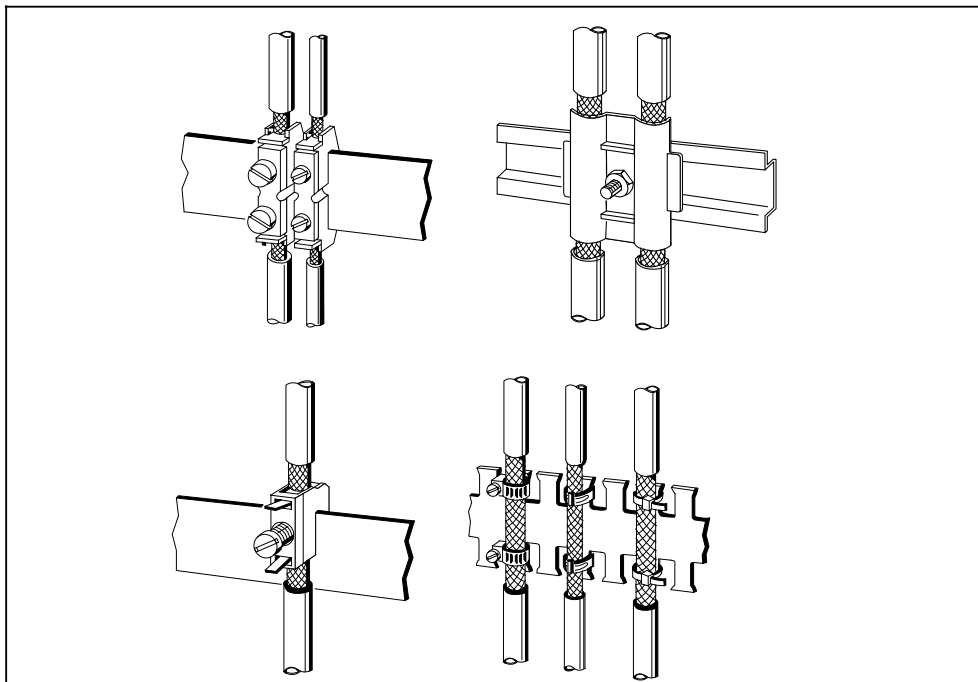

Figure 3-55 Fixing Shielded Cables with Various Types of Cable Clamps
- Use metal cable clamps for fixing the braided shield. The clamps have to enclose the shield over a large area and make good contact (see Figure 3-55).